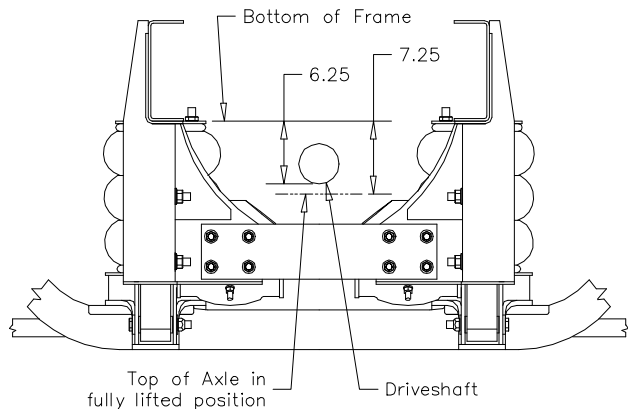

Figure 1
- ?? The drive shaft and the auxiliary axle(if applicable). (see Figure 1)
- ?? Air springs when they are at their maximum diameter (one (1) inch minimum clearance).
- f) Check for any interference between the axle and the drive shaft, if applicable. (see Figure 1)